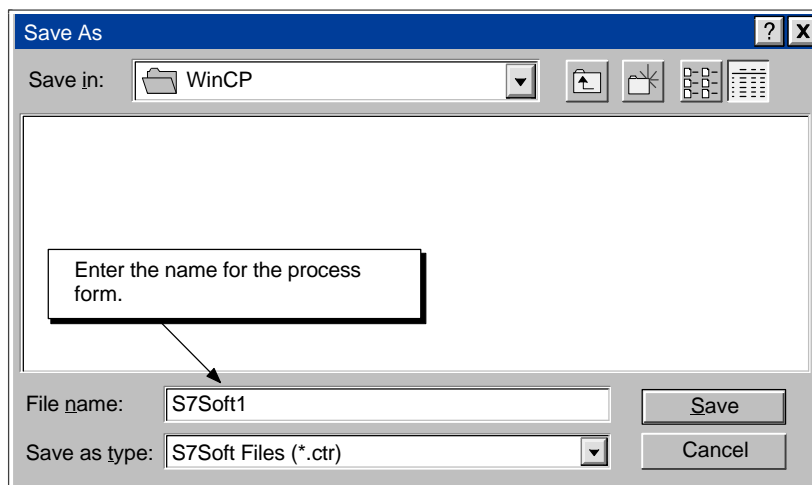

Figure 6-6 Saving a Process Form for MicroComputing
1. Select the **File > Save As** menu command to display the Save As dialog box. See Figure 6-6.